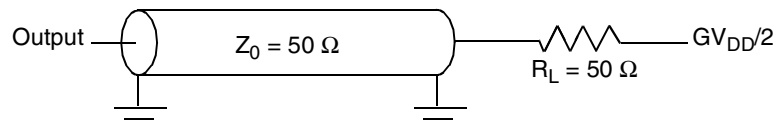
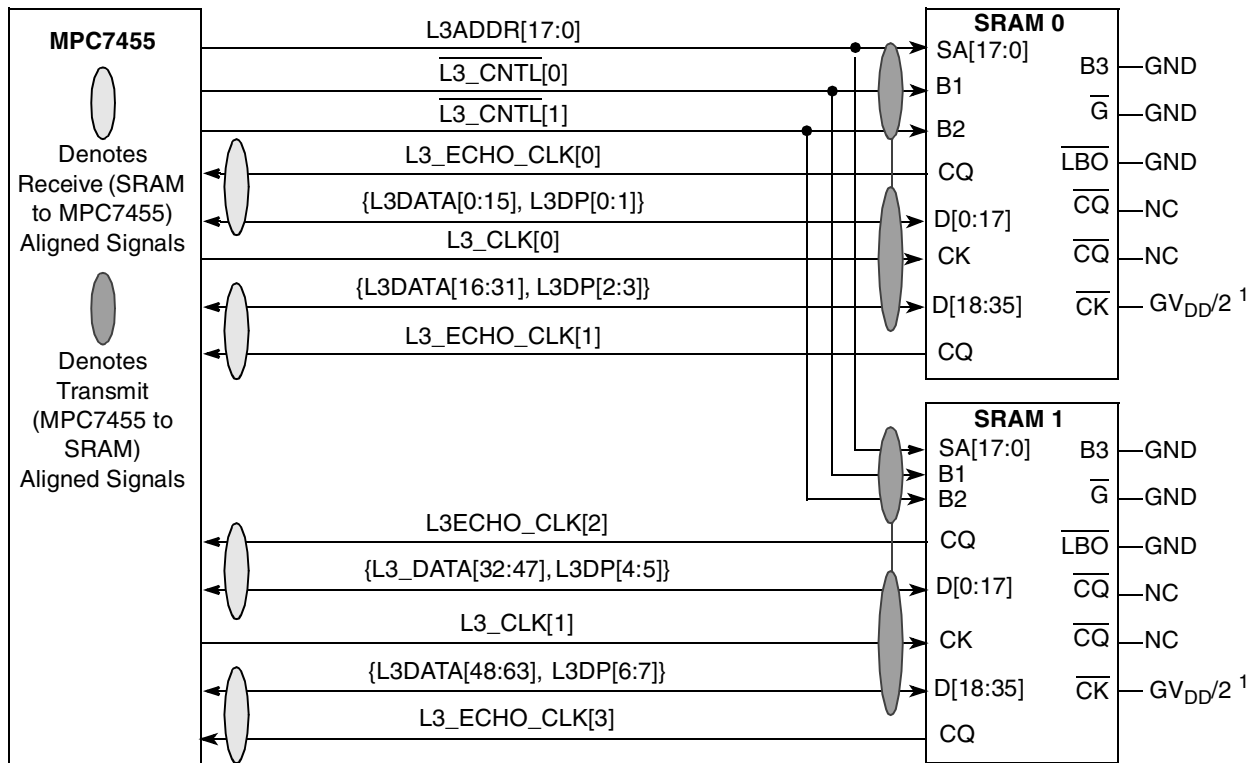
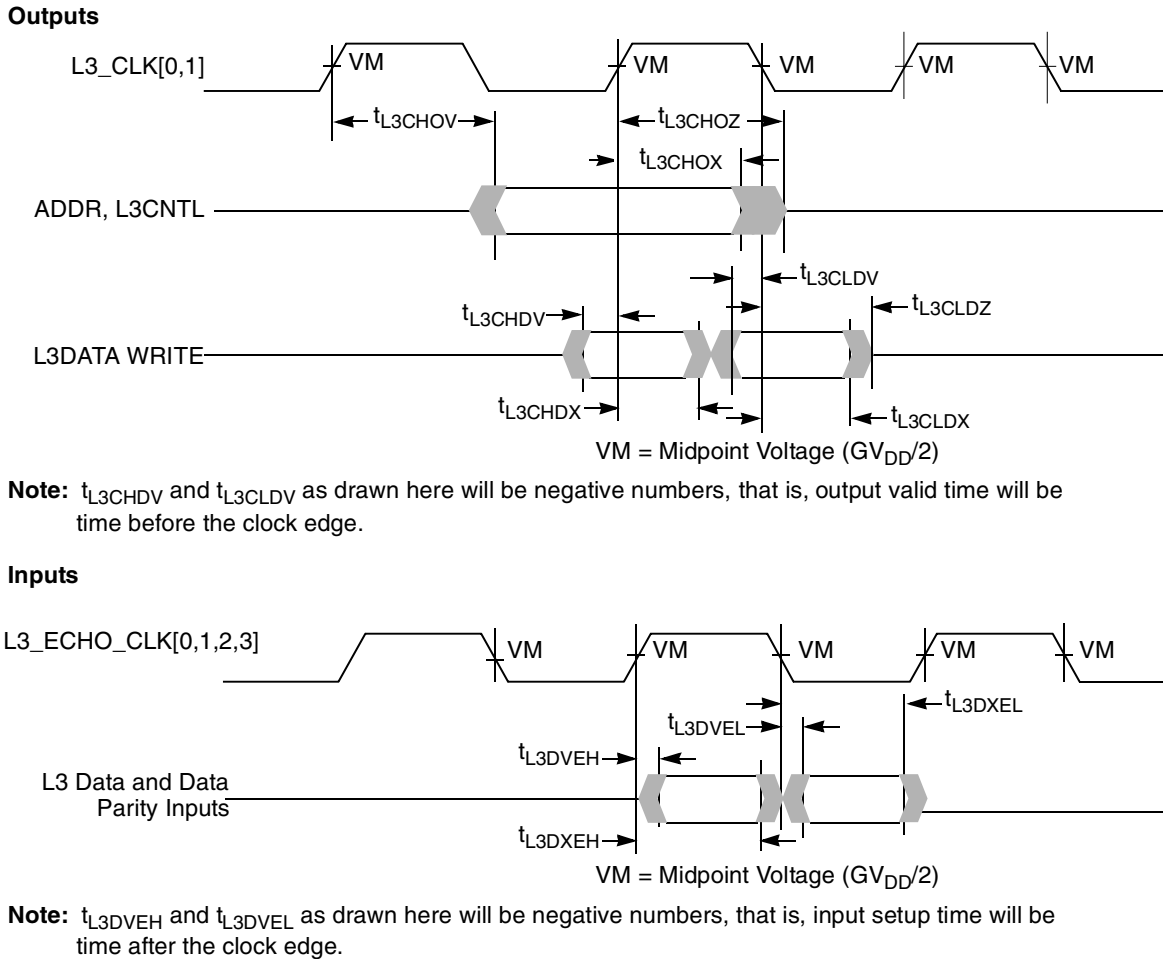
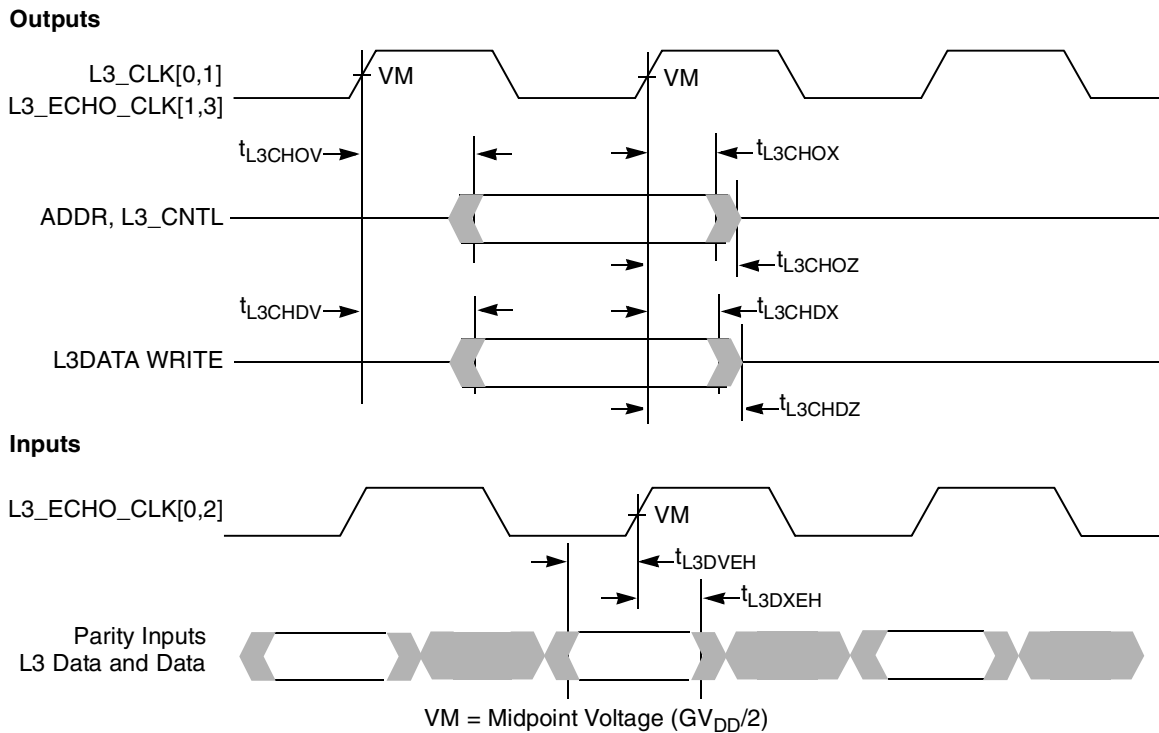

Figure 8. AC Test Load for the L3 Interface
Figure 9. Typical Source Synchronous 2-Mbyte L3 Cache DDR Interface
Figure 10. L3 Bus Timing Diagrams for L3 Cache DDR SRAMs
Figure 12. L3 Bus Timing Diagrams for Late Write or PB2 SRAMs
- For high speed operations, L3 interface address and control signals should be a ‘T’ with minimal stubs to the two loads; data and clock signals should be point-to-point to their single load. Figure 8 shows the AC test load for the L3 interface.
More specifically, certain signals within groups should be delay-matched with others in the same group while intergroup routing is less critical. Only the address and control signals are common to both SRAMs and additional timing margin is available for these signals. The double-clocked data signals are grouped with individual clocks as shown in Figure 9 or Figure 11, depending on the type of SRAM. For example, for the MSUG2 DDR SRAM (see Figure 9); L3DATA[0:31], L3DP[0:3], and L3_CLK[0] form a closely coupled group of outputs from the MPC7455; while L3DATA[0:15], L3DP[0:1], and L3_ECHO_CLK[0] form a closely coupled group of inputs.
When using DDR MSUG2 SRAMs at the L3 interface, the parts should be connected as shown in Figure 9.
Table 12 provides the L3 bus interface AC timing specifications for the configuration as shown in Figure 9, assuming the timing relationships shown in Figure 10 and the loading shown in Figure 8.
2. For DDR, all input specifications are measured from the midpoint of the signal in question to the midpoint voltage of the rising or falling edge of the input L3_ECHO_CLK_n (see Figure 10). Input timings are measured at the pins.
3. For DDR, the input data will typically follow the edge of L3_ECHO_CLK_n as shown in Figure 10. For consistency with other input setup time specifications, this will be treated as negative input setup time.
5. All output specifications are measured from the midpoint voltage of the rising (or for DDR write data, also the falling) edge of L3_CLK to the midpoint of the signal in question. The output timings are measured at the pins. All output timings assume a purely resistive 50-Ω load (see Figure 8).
6. For DDR, the output data will typically lead the edge of L3_CLK_n as shown in Figure 10. For consistency with other output valid time specifications, this will be treated as negative output valid time.
Figure 9 shows the typical connection diagram for the MPC7455 interfaced to MSUG2 SRAMs such as the Freescale MCM64E836.
Figure 10 shows the L3 bus timing diagrams for the MPC7455 interfaced to MSUG2 SRAMs.
Table 13 provides the L3 bus interface AC timing specifications for the configuration shown in Figure 11, assuming the timing relationships of Figure 12 and the loading of Figure 8.
2. All input specifications are measured from the midpoint of the signal in question to the midpoint voltage of the rising edge of the input L3_ECHO_CLK n (see Figure 10). Input timings are measured at the pins.
3. All output specifications are measured from the midpoint voltage of the rising edge of L3_CLK n to the midpoint of the signal in question. The output timings are measured at the pins. All output timings assume a purely resistive 50-Ω load (see Figure 10).
Figure 12 shows the L3 bus timing diagrams for the MPC7455 interfaced to PB2 or late write SRAMs.